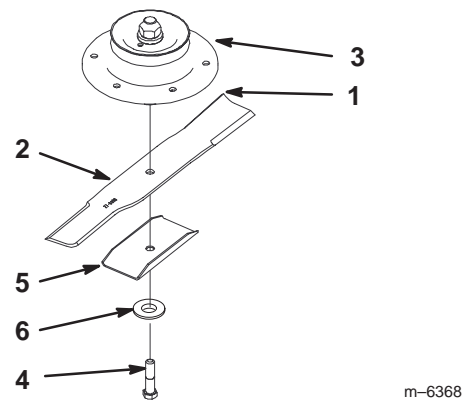
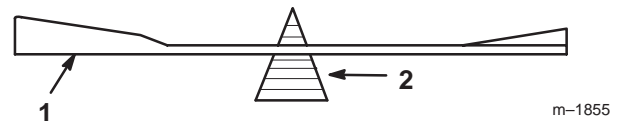

Figure 57
Figure 59
1. Hold the blade end using a rag or thickly-padded glove. Remove the blade bolt, blade stiffener, washer, and blade from the spindle shaft (Fig. 57).
2. Check the balance of the blade by putting it on a blade balancer (Fig. 59). If the blade stays in a horizontal position, the blade is balanced and can be used. If the blade is not balanced, file some metal off the end of the sail area only (Fig. 57). Repeat this procedure until the blade is balanced.
1. Install the blade onto the spindle shaft (Fig. 57).
Important The sail part of the blade must be pointing upward, toward the inside of the mower to ensure proper cutting (Fig. 57).
2. Install the lock washer and blade bolt (Fig. 57).